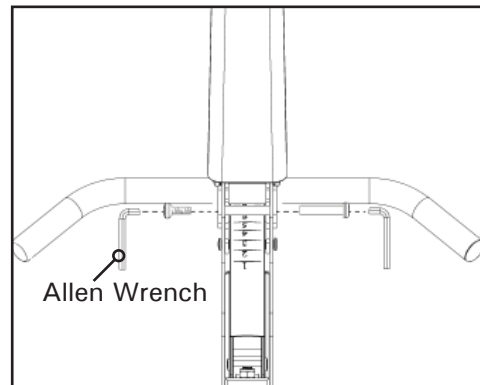

Figure 13
- Align the bolt holes. Insert the Bolt Sleeve through the holes and secure with the Sleeve Screw (Figure 13). Position one Allen Wrench on the Sleeve Screw and one on the Bolt Sleeve to tighten.